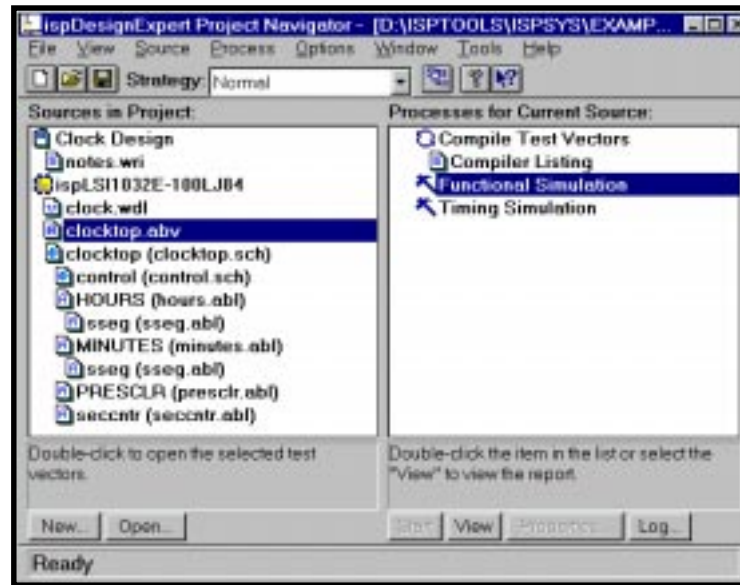

Figure 5-1. Running the Lattice Logic Simulator
1. Select the ABEL-HDL test vector file (.abv) or the waveform stimulus file (.wdl) of an ispLSI or a GAL design from the Sources window of the ispDesignExpert Project Navigator (Figure 5-1).